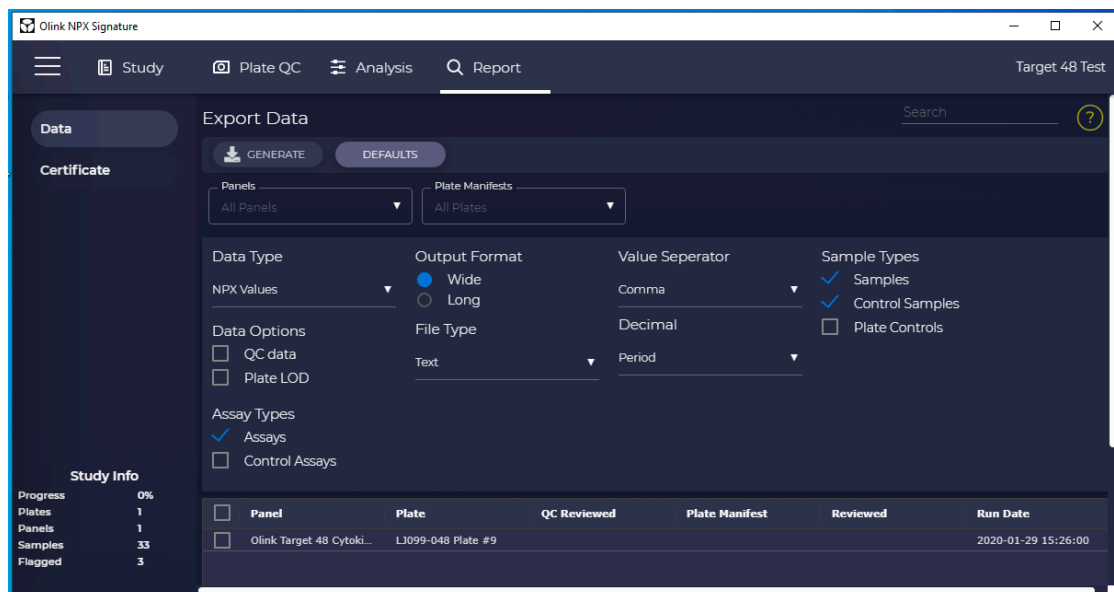

Figure 6. Olink® NPX Signature Export Data view.
3. Figure 6 shows the **Export Data view** with the recommended default settings. These settings may be adjusted to change the format, layout, or to add additional data to the export. See Table 4 for more information.